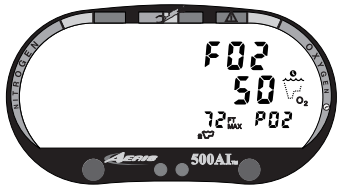

Fig. 52 - FO2 (Default ON)
- If the FO2 Default was set ON, the FO2 value displayed (Fig. 52) will be the 'default value' of 50 (%) and will have to be set for the breathing gas used for the next dive.